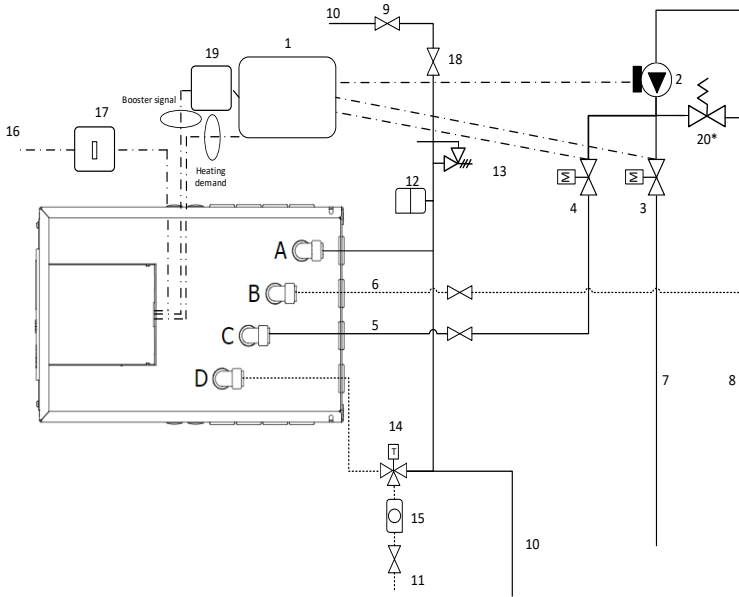

Figure 12.1: Example Wiring Option 1 Schematic (see Figure 3 for piping and electrical options available)
1. **+iLTHP option 1:** Samsung Low Temperature Heat Pump (Fig. 12.1 & 12.2)
- Run and connect 3 Core mains power supply cable (16A, minimum 2.5mm² CSA) from the local 2-pole isolator to the Heat Battery controller (Figures 12.1 and 12.2).